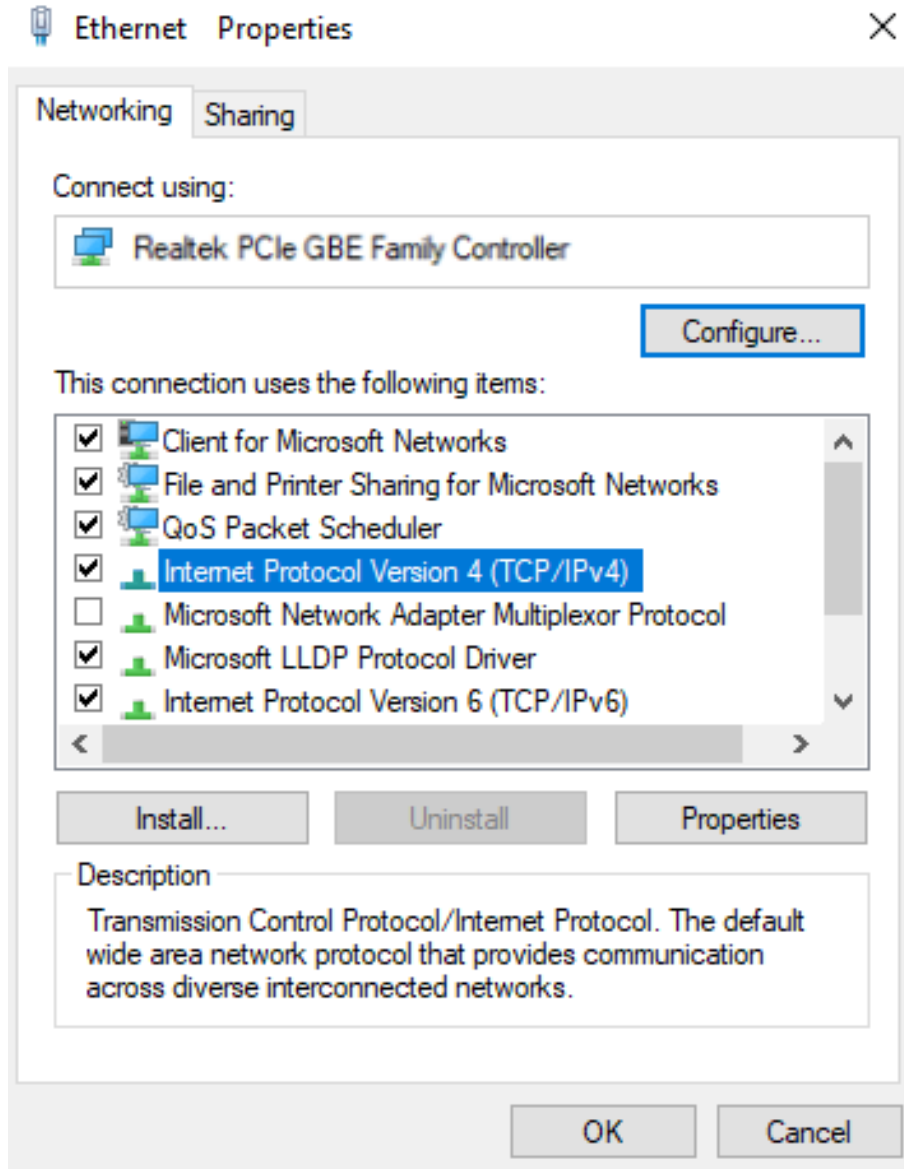

Figure A.6: Selecting IPv4 option
Step 6 Select the “Internet Protocol Version 4 (TCP/IPv4)” option. Click on the “Properties” button (Figure A.6).